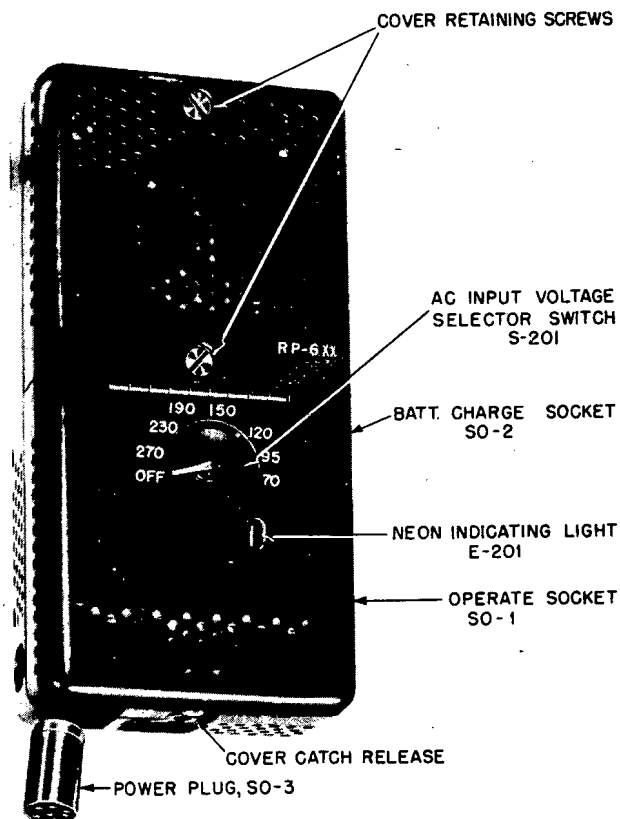

Figure 4. Power Supply RP-6-XX showing control switch and power plug
a. Turn input voltage selector switch on Power Supply RP-6-XX (Figure 4) to OFF.
(1) Turn the input voltage selector switch on Power Supply RP-6-XX to OFF. (Figure 4).
(2) Insert Jones plug marked BAT in receptacle marked BATT-CHARGE.
(3) Connect red battery lead to the plus 6-volt terminal of storage battery.
(4) Connect black battery lead to the minus 6-volt terminal of storage battery.
(5) Insert Jones plug marked AC in receptacle marked OPERATE.
(6) Do not connect Power Supply RP-6-XX power plug to Filter-Accessory Unit RA-6-XX or fuse will be blown.
(7) Connect the two-prong plug of the AC cable assembly to any a-c power source whose voltage is between 70 and 270 volts, and whose